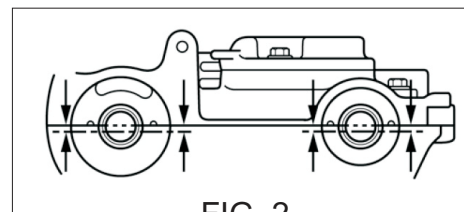

FIG. 2
- 2 Disassembly rear covers for camshaft and make sure camshafts are aligned [FIG. 2].